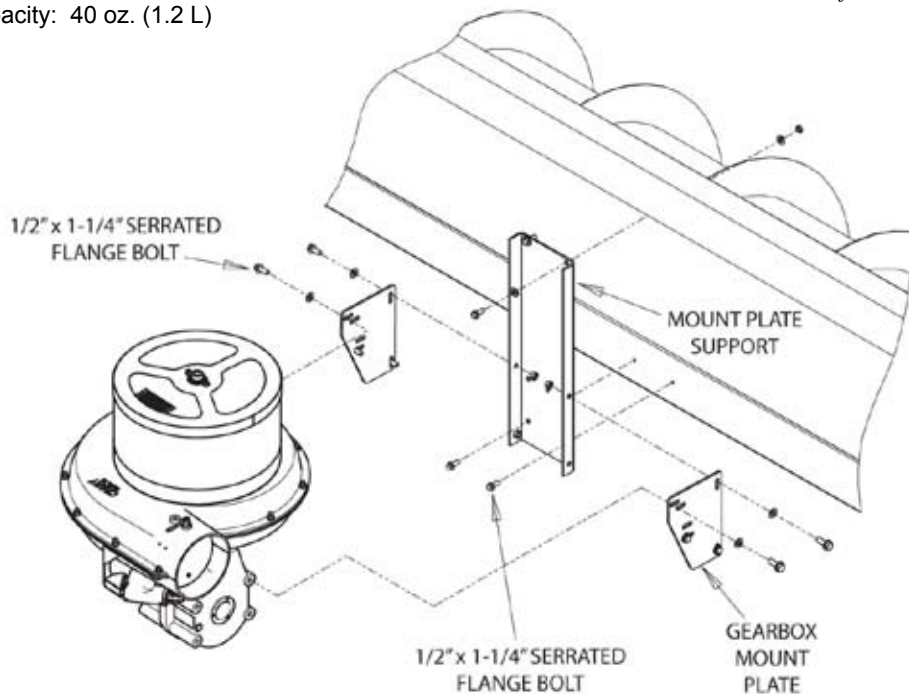

Figure 5, Gearbox mount kit
3. Install the mount plate support to the header with four 1/2" x 1-1/4" serrated flange bolts (Figure 5). Torque bolts to 75 ft-lbs.